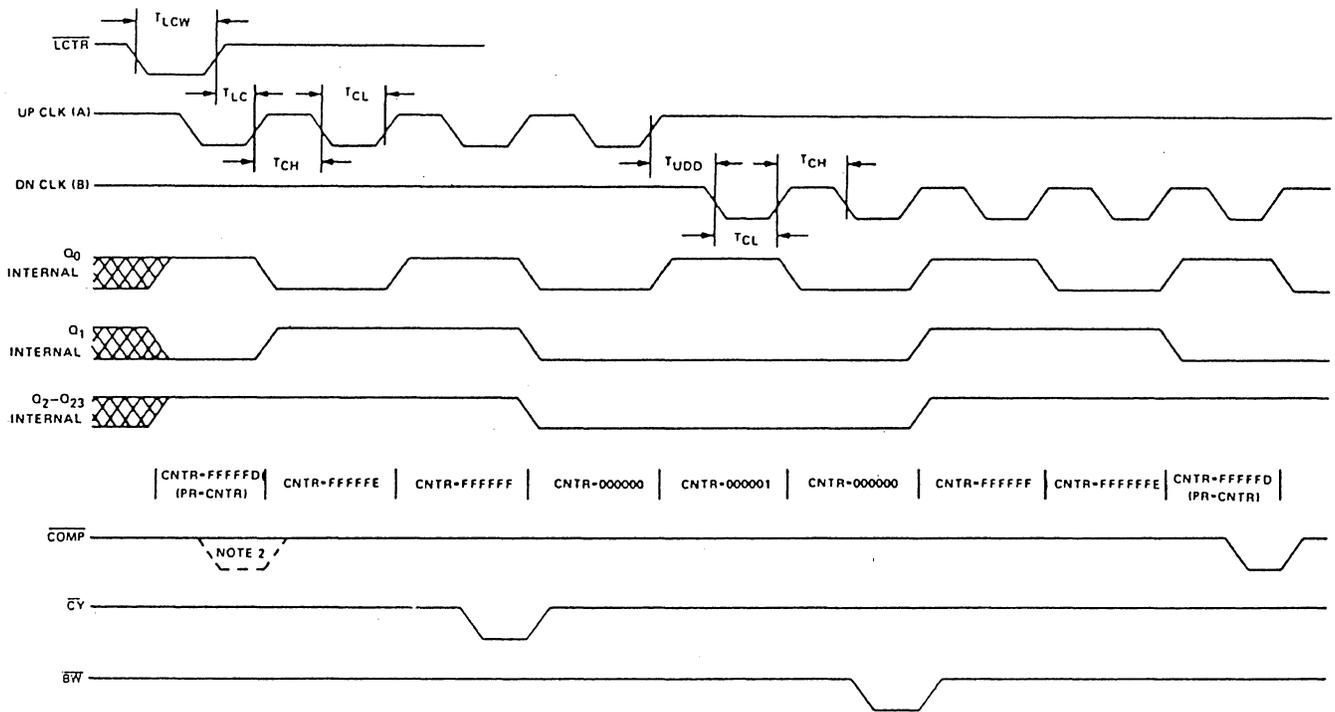

FIGURE 2 - LOAD COUNTER, UP CLOCK, DOWN CLOCK, COMPARE OUT, CARRY, BORROW
**TRANSIENT CHARACTERISTICS.** (See timing Diagrams in Fig. 2 through Fig. 7.)